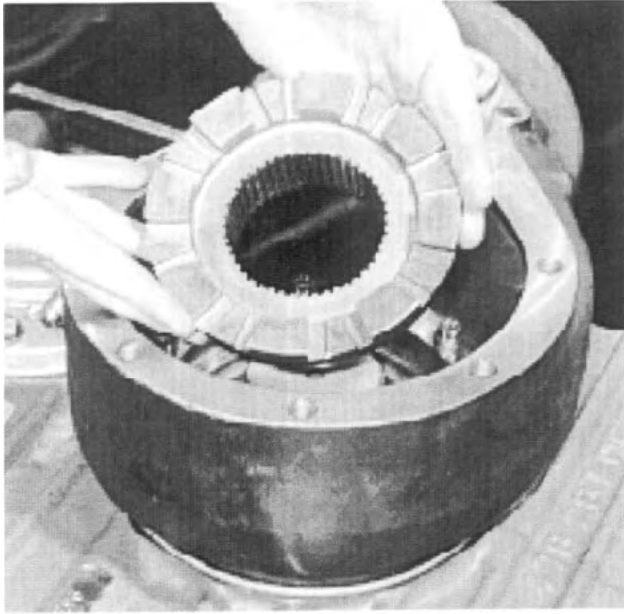

Fig. 20
20. Remove the declutch gear from the front declutch housing. See Fig. 20.